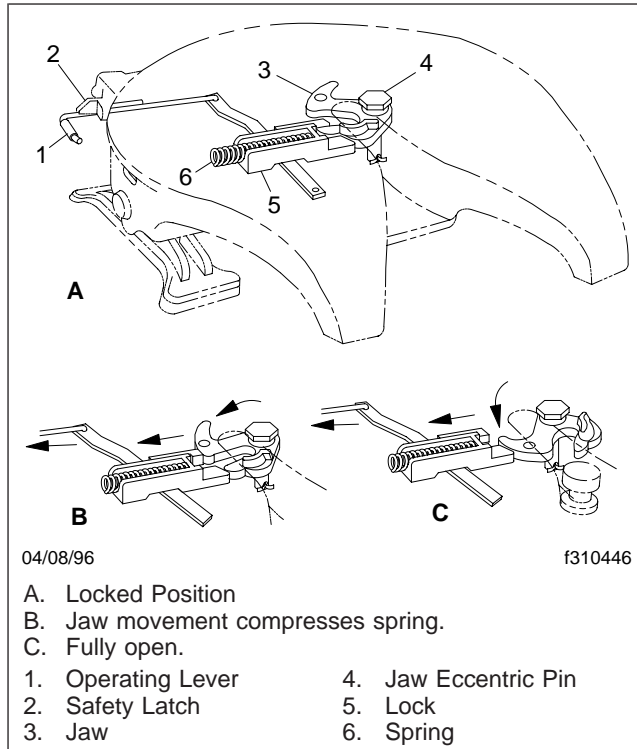

Fig. 10.12, ASF Castloc II and Simplex Series Kingpin Locking Mechanism Operation
Fifth Wheel Lock Mechanism for Trailer Kingpin (Fig. 10.12)
4. Position the tractor so that the center of the fifth wheel is in line with the trailer kingpin. The kingpin should be in a position to enter the throat of the locking mechanism. See Fig. 10.12. Adjust the trailer landing gear so that the lower front trailer edge contacts the top surface of the tilted fifth wheel plate, approximately 8 inches (20 cm) before the fifth wheel center.